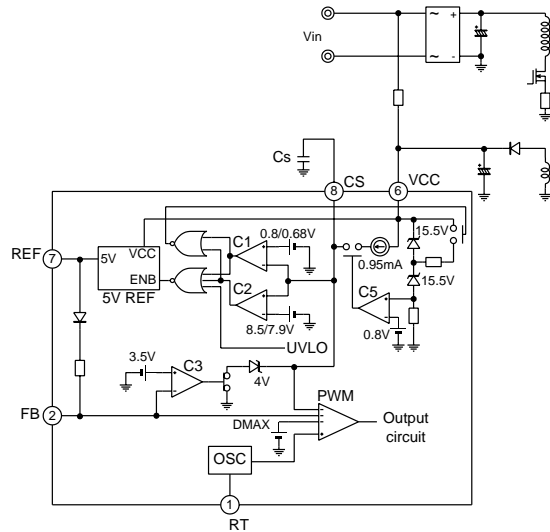
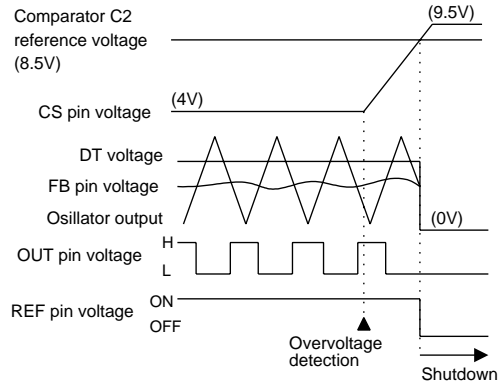

Fig. 16 Overvoltage shutdown circuit
Fig. 17 Overvoltage shutdown timing chart
The IC contains a Vcc overvoltage protection circuit to protect the IC from damage by overvoltage. Figure 16 shows the overvoltage protection circuit. Figure 17 is a timing chart that illustrates overvoltage protection operations. Overvoltage is detected if the supply voltage Vcc rises to 31.8V ($I_{cc}=14mA$) or more and current flows in the built-in zener diode. The output of comparator C5 then goes high and the constant current source (0.95mA) raises the CS pin voltage. When the CS pin voltage exceeds 8.5V, the output of comparator C2 goes high to turn off the 5V REF circuit. The IC then enters the latched mode and the IC output is put in the off (low voltage) state. When latched mode, the IC current consumption is 45µA (typ) ($V_{cc}=10V$). This current must be supplied through the startup resistor. The overvoltage shutdown operation can be reset by lowering the supply voltage to below 9.0V or forcing the CS pin voltage below 7.9V. (When you want to enable Vcc overvoltage shutdown at a desired voltage, see item 6 in "Design advice.")